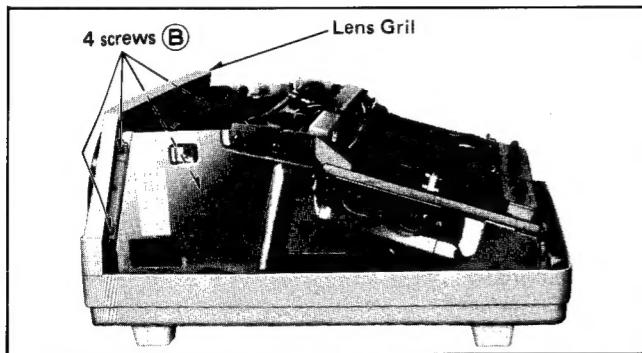

Fig. 3
- 1) Remove 4 screws **(B)** in fig. 3.
- 2) Remove the lens grill shown in fig. 3. (Remove 4 screws **(B)**).